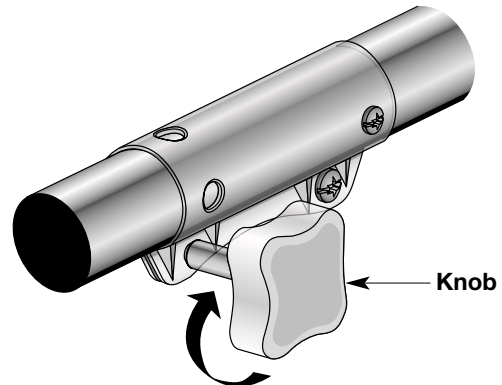

Fig. 9
3. Turn the knob clockwise to tighten (Fig. 9).